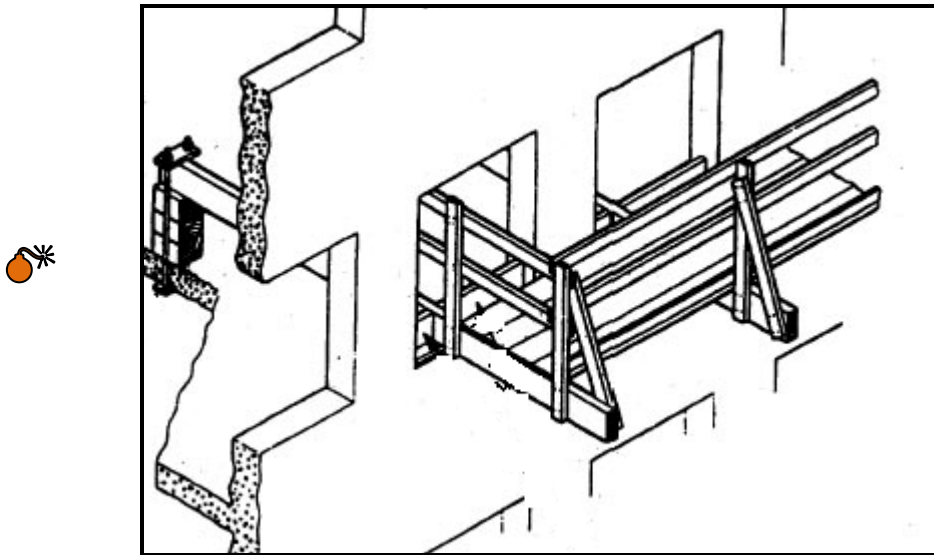

FIGURE 1
3.1 FIGURE 1 below shows suspended scaffolding.